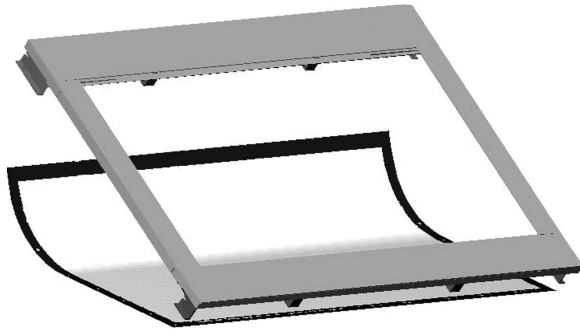

Figure 4
2. While lifting the frame with one hand, snap the screen surface onto the frame. Gently allow the screen to stretch onto snaps. See Figure 4. Attach the snaps on the top corners and top horizontal first, lift the frame to a vertical position to finish attaching the rest of the snaps.